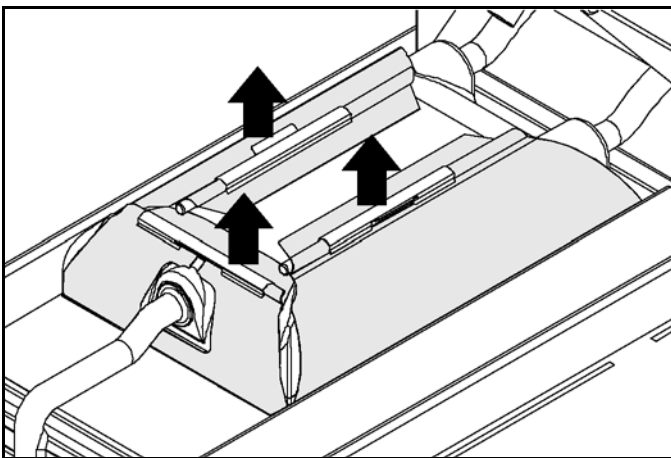

Figure-177
8. Remove all of the clips, bars, and release sheets before the recovery cleaning. See Figure-177.